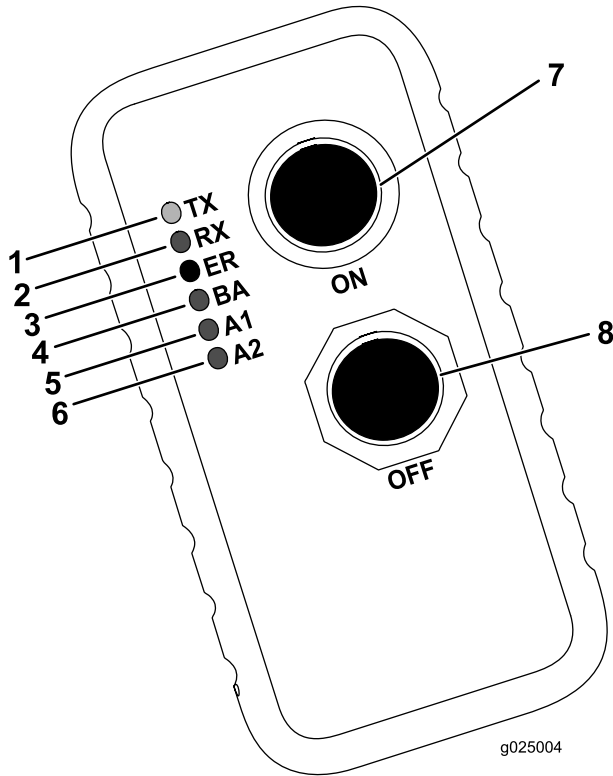

Figure 58
The following table lists the various states of the indicator lights on the handheld transmitter (Figure 58) and their meanings:
4. Simultaneously press and hold the On and Off buttons (Figure 58).
5. Continuously hold both On and Off buttons until the green transmit (TX) indicator light begins to flash (Figure 58).
6. Turn the machine on while continuing to hold On and Off buttons (Figure 58).
7. Release the On and Off buttons (Figure 58).